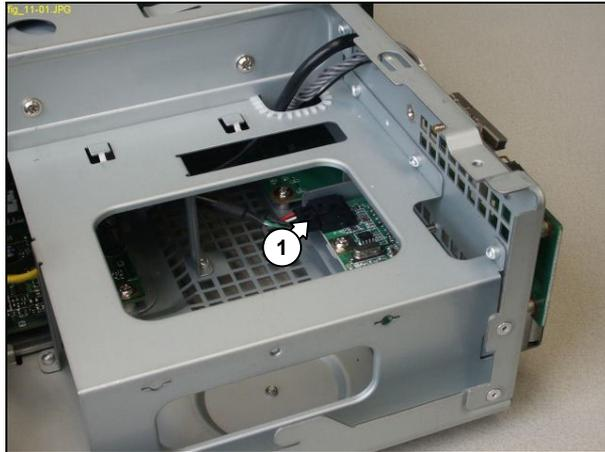

Figure 0-1
4. Disconnect the cable (1) from the rear of the card reader board. See Figure 0-1.